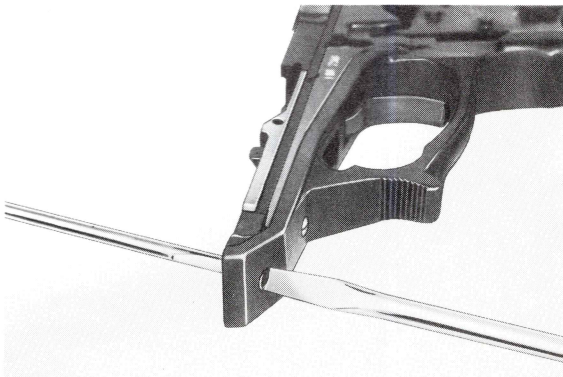

Fig. 27
- Unscrew the threaded insert (15) and the lens head countersunk screw (11) applying counter torque to the insert (15), and remove (Fig. 27).